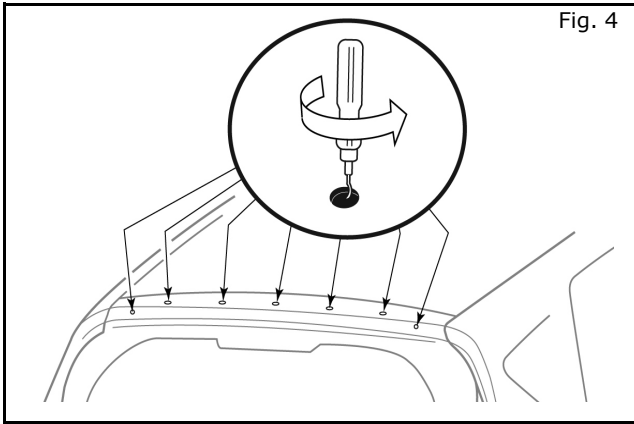

Fig. 4
- g) De-burr the seven holes and remove the metal chips. (Fig. 4)